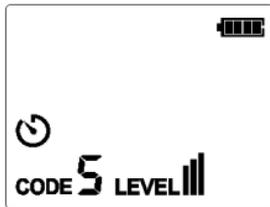

Figure 7.2.2a
3. For most applications, the default transmission strength is **■■■** (Default code: 5). As shown in **Figure 7.2.2a**, the level shown on the LCD is **■■■**.